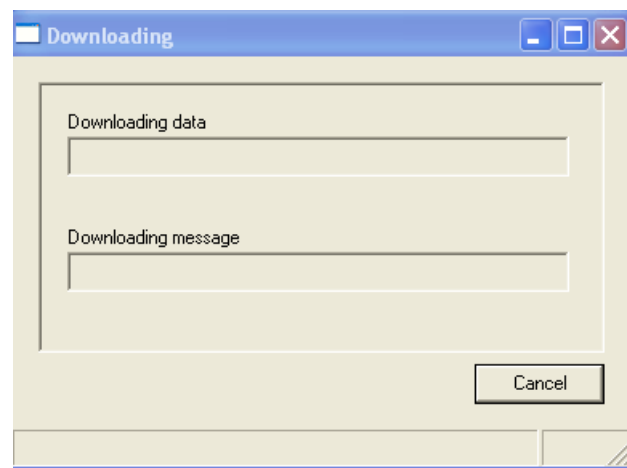

figure 8.19: Download configuration window
- If you click No, the software will start to download the schedule from the Plena Weekly Timer to the PC, and the Downloading window will appear (see figure 8.19). When downloading is complete, this window will close.